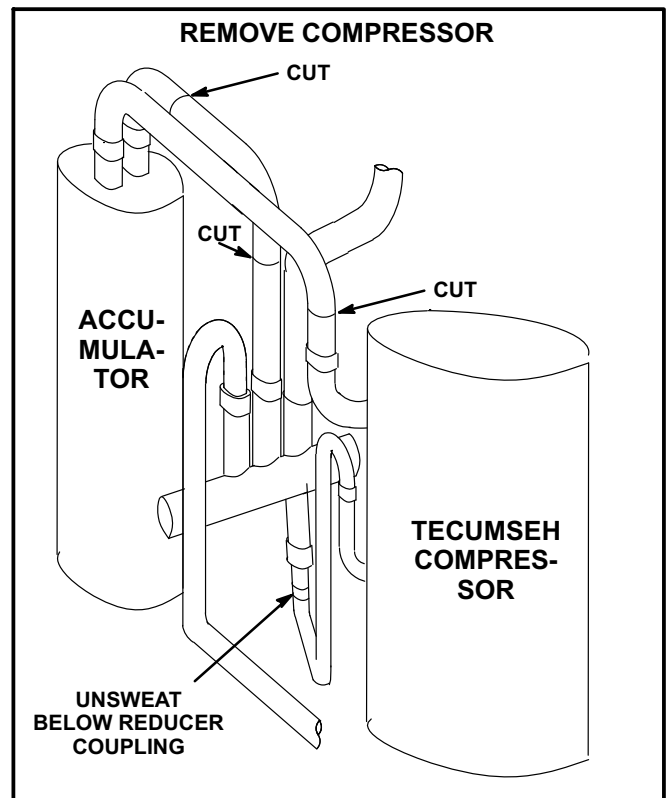

FIGURE 2
- 4- Cut or unsweat plumbing as shown in figure 2.